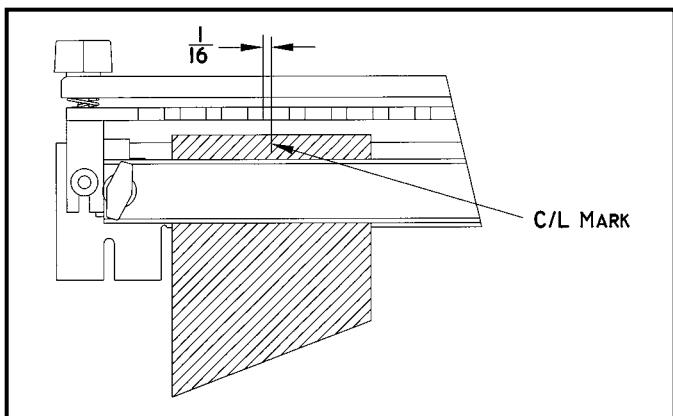

Fig. 20
4. Mark center of board to be routed under front clamp, up against bottom of box templet. Locate center mark  $1/16"$  to the right of the templet finger slot that is closest to the left end of the templet (see Fig. 20).